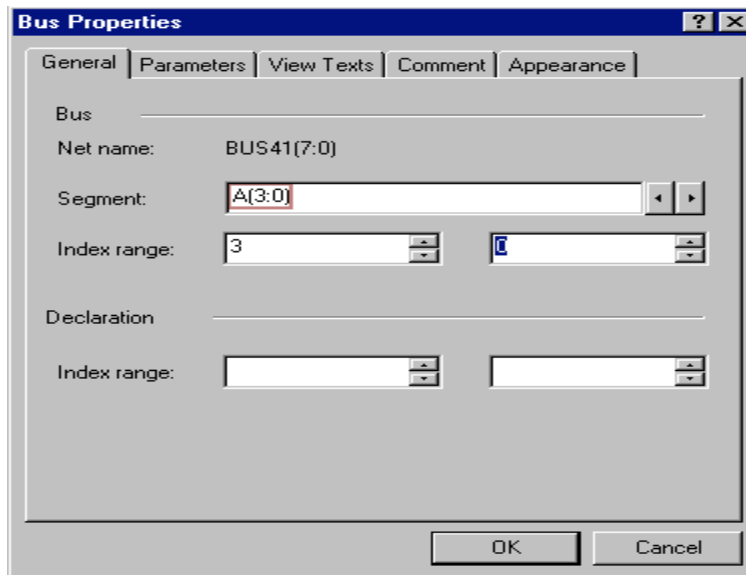

Figure 8
2. Type the name of the bus in the “Segment” field, and select the index range. By default, buses are 8-bits wide when drawn (see Figure 8 on the next page).